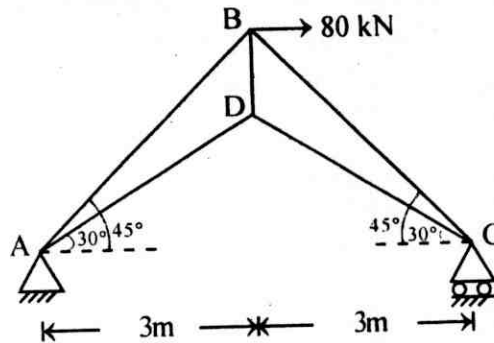

Fig. 5
3. Determine the horizontal deflection of roller support C of the frame shown in fig. 5 due to applied load of 80kN being applied at B. Area of members AB, BC and BD are each of 800mm^2 and AD and CD are each of 1600mm^2 area. Take $E = 2.06 \times 10^5 \text{ N/mm}^2$. (16)